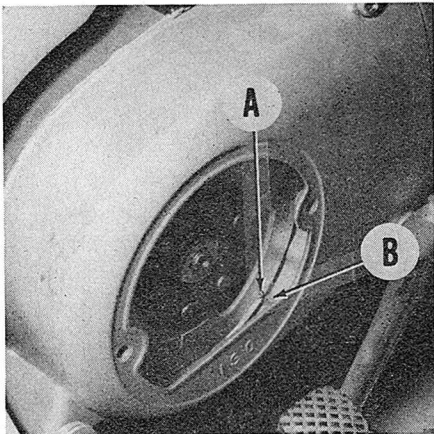

Fig. S10-3—Ignition points should just open as timing marks (A&B) align.
Gap of ignition points should be set at 0.014 inch. Ignition should occur (points just open) when piston is 2.01 MM (0.079 in.) BTDC. Timing mark on flywheel (A—Fig. S10-3) will align with pointer (B) in left engine cover at this time. Timing may be adjusted by moving magneto base plate after removing flywheel.